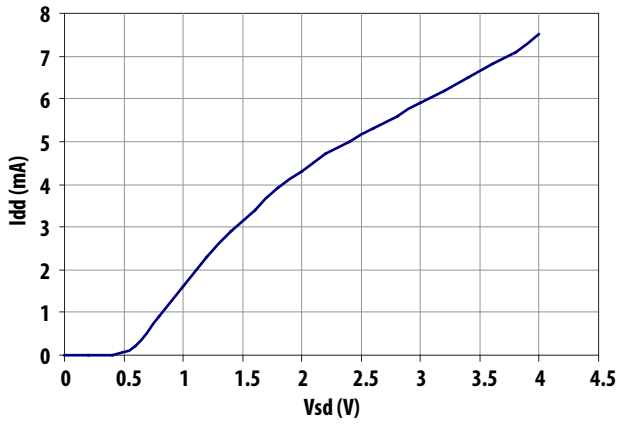

Figure 7. Idd vs Vsd for Vdd = 1.8V, R2 = 2.7k Ohm
Table 1. Performance at Vdd = Vsd = 2.7V, Idd = 6mA (R2 = 4.7k Ohm, see Fig 7) nominal operating conditions
Table 2. Performance at Vdd = Vsd = 1.8V, Idd = 4mA & Vdd = Vsd = 2.8V, Idd = 4mA (for R2 value, see Fig 7) nominal operating conditions
1. Measurements at 1.575GHz obtained using schematic described in Figure 7 & 8 below.
The S- and Noise Parameters are measured using a coplanar waveguide PCB with 10 mils Rogers® RO4350. Figure 33 shows the input and output reference planes. The circuit values are as indicated in Figure 7.